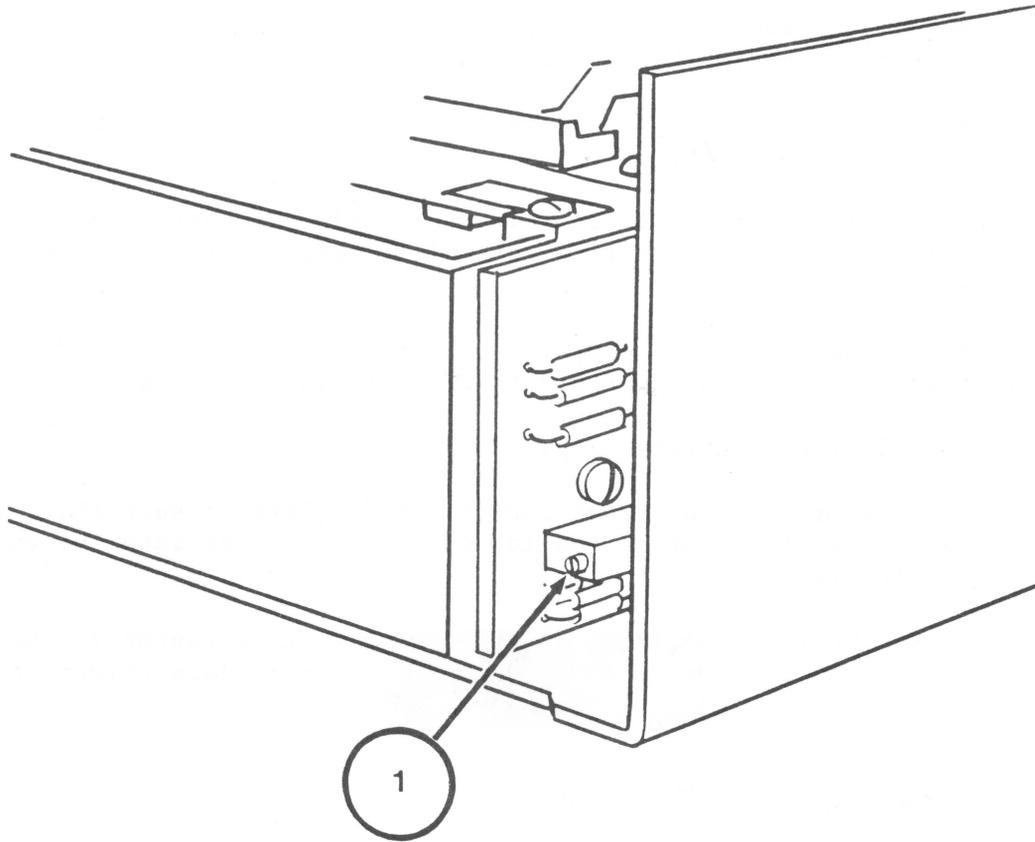

FIGURE 11
8. Look at the back of the drive mechanism. Locate the Motor Control Card, mounted on the edge, and note the small grey helipot with a screwdriver adjustment on the side (Figure 11,#1).